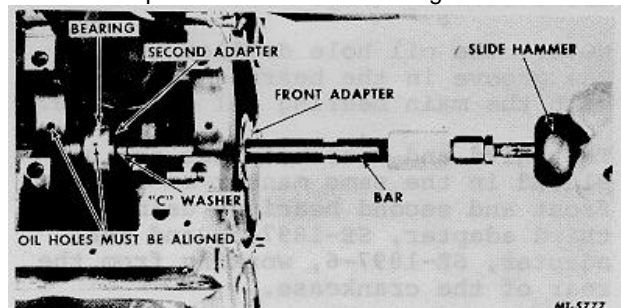

Fig. 73 Installing Second Bearing
5. Position the new bearing on the second adapter and "C" washer in front of the adapter (Fig. 73). Align oil hole and push in the second bearing